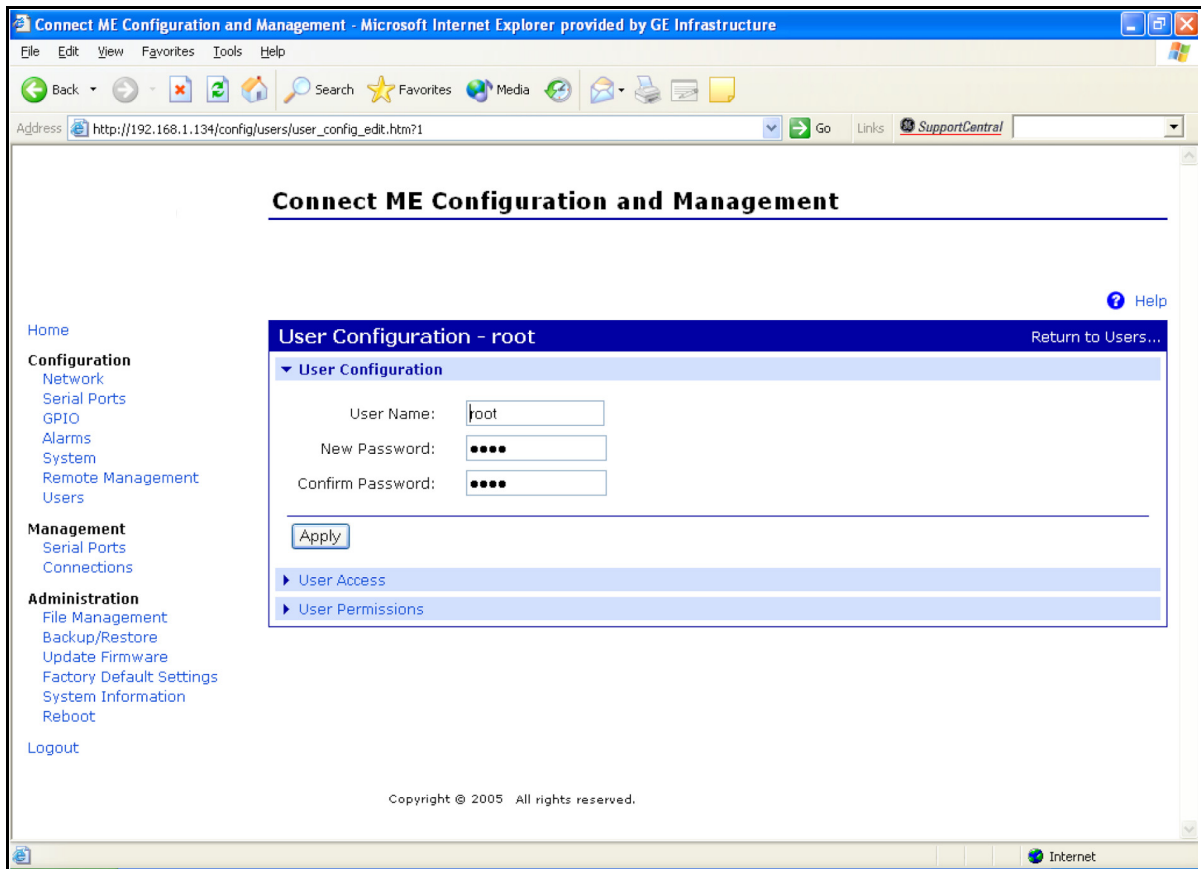

Figure 20: Changing the User Name and/or Password
5. Click on **New....** Figure 20 on page 39 appears.